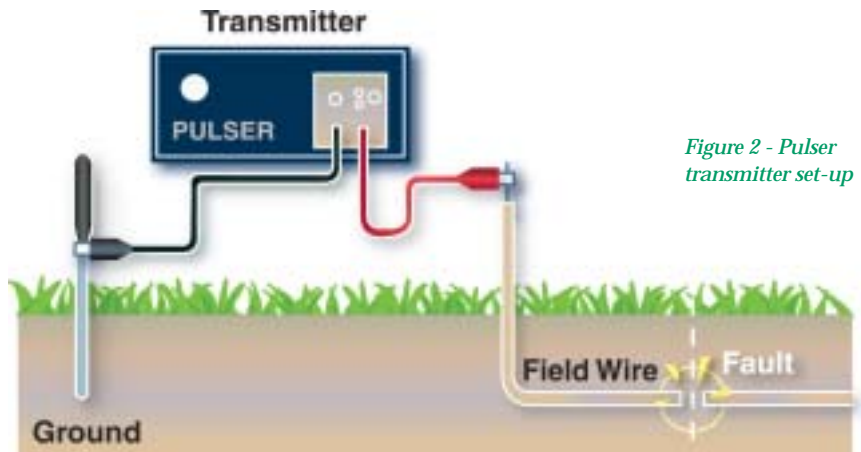

Figure 2 - Pulser transmitter set-up
- 2 If the clock is indoors, the stake MUST be grounded where the wires exit the building. This often requires running wire to the outside. DO NOT use an inside "building" ground or water pipe. (See figure 2)